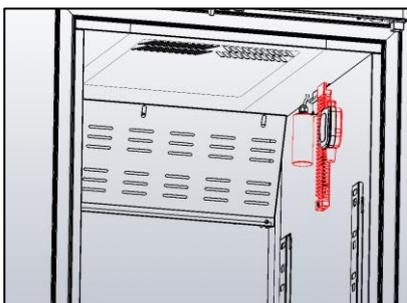

Figure 14– probes position
- ✓ Do not position material in contact with or near the temperature probes (Figure 14).